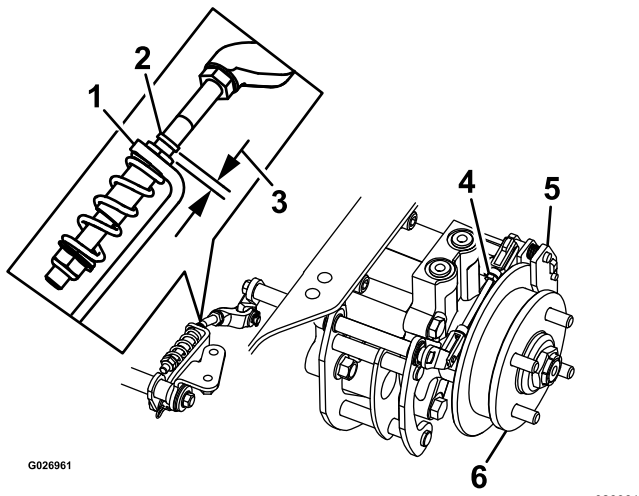

Figure 91
7. Check to see if there is a visible gap between the L-bracket and the linkage stop (Figure 91).